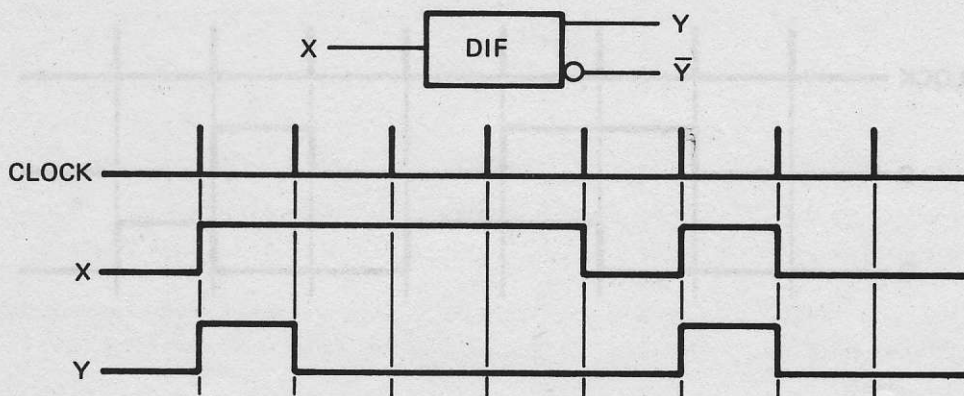

Figure 5.8 *Logic Differentiator: Typical Programming Symbol and Timing Diagram*
As illustrated in Figure 5.8.
1. The logic differentiator (DIF) generates a pulse whenever the input undergoes a "0" to "1" transition. The output goes high coincidentally with the input and then drops low on the next clock pulse. See Figure 5.8.